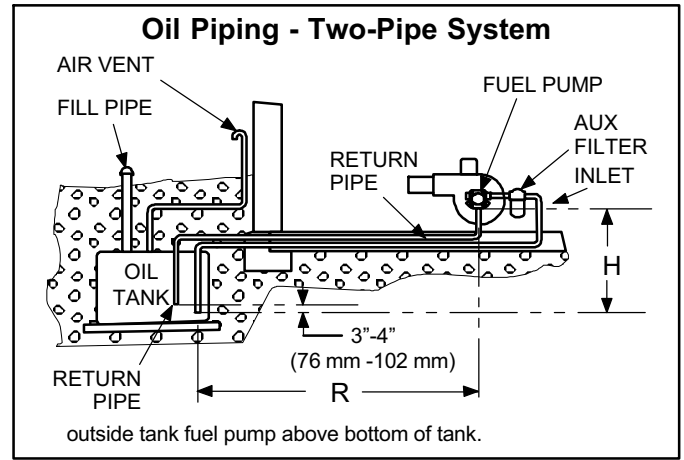

Figure 16
When using a two-pipe system (see figure 16) with the oil tank below the level of the burner, use a single-stage fuel pump in lift conditions of up to 10 feet (3 m) and/or a vacuum of 10" (254 mm) Hg or less. Use a two-stage fuel pump when lift exceeds 10 feet (3 m) and/or a vacuum of 10" (254 mm) Hg to 15" (381 mm) Hg. Both conditions require that you use of a two-pipe system, which consists of a return line that purges the fuel pump of air by returning it to the tank. To determine the run and lift for piping, refer to table 4 .
2. Insert bypass plug and tighten it (see figure 16).
4. The return pipe must terminate 3" to 4" above the supply pipe inlet (see figure 16).